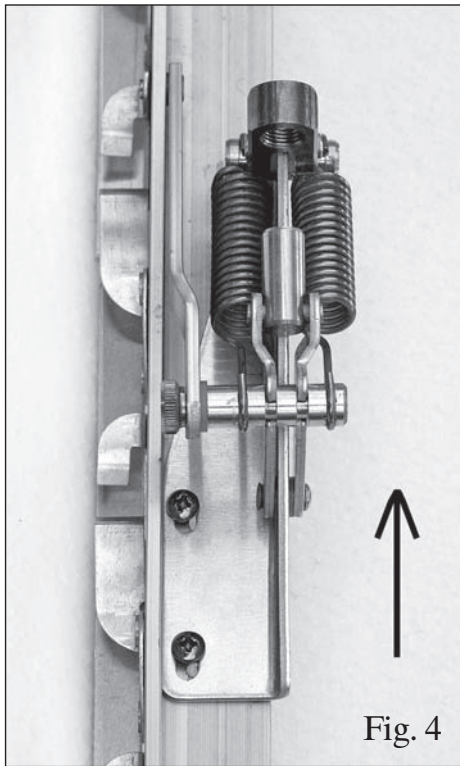

Fig. 4
5. Place the opener where the handle used to be, push the opener towards the connecting arm until the mechanism is fully closed. Mark the position of the 2 fitting holes in the arm of the opener (5) onto the louvre mechanism.
7. Fasten the opener using the enclosed self cutting screws, but tighten only loosely for the time being – see fig.4